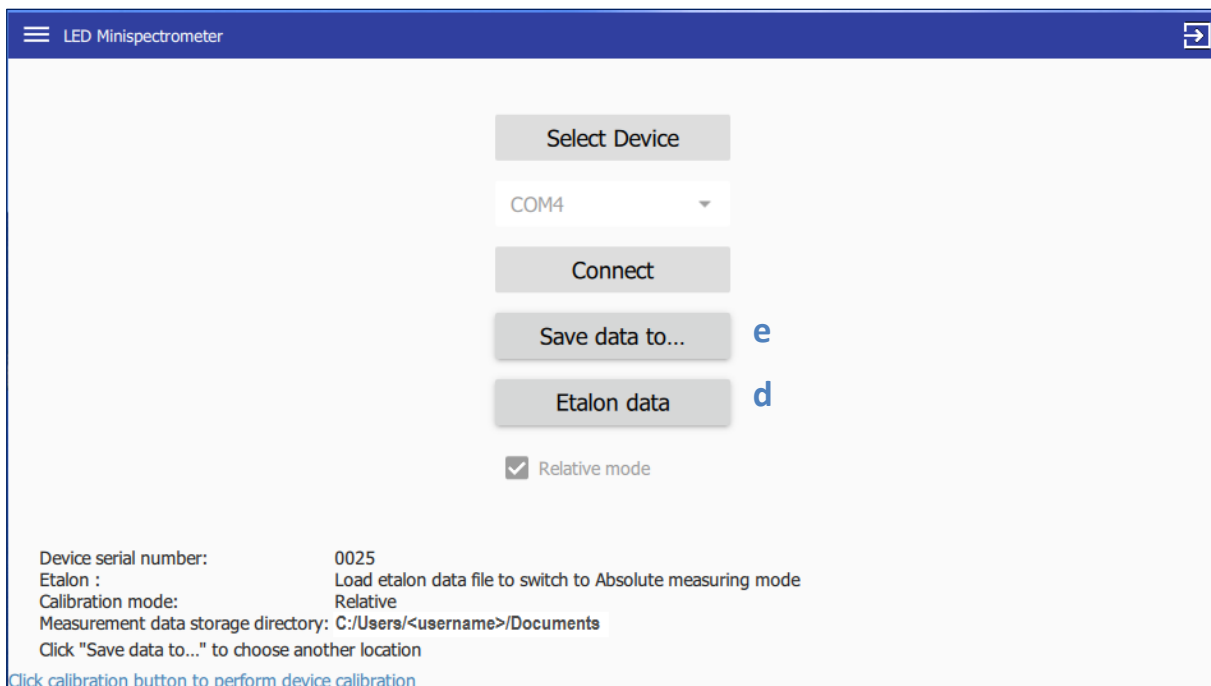

Fig.2. Program settings – downloading the etalon calibration file, choosing directory for data storage.
- 3.4 When the program is run for the first time – “Etalon data” button will be displayed (fig.2, d). By clicking “Etalon data” button download the etalon calibration data file – “calibrator” file (provided with the device on the USB flash drive). This file is to be downloaded just once, on the next program run the “Etalon data” button won’t be displayed.
- 3.5 For choosing directory of measurement data storage click “Save data to...” button (fig.2, e). Directory can be changed while working with the device.